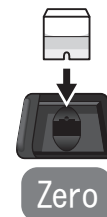

Fig.4
3. Put the Cell filled with the pretreated sample in the cell box and press [Zero]. (Fig.4)
6. Set the Cell in the cell box again and press **[Start]**. (Fig.4)